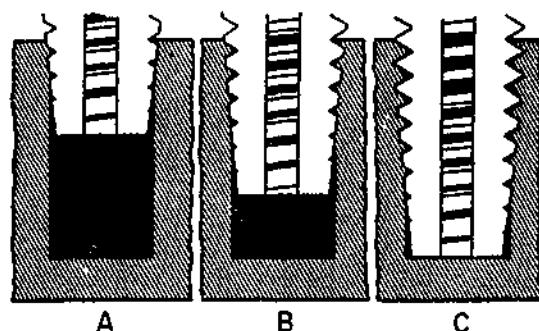

Figure 17-37. Use of Taper Tap for Blind Hole
h) To tap a blind hole, start with the taper tap. For a blind hole the taper, plug, and bottoming taps are required. Be sure they are the correct size and thread and that the tap hole is also the correct size. Figure 17-37 shows how the taper tap is used first.